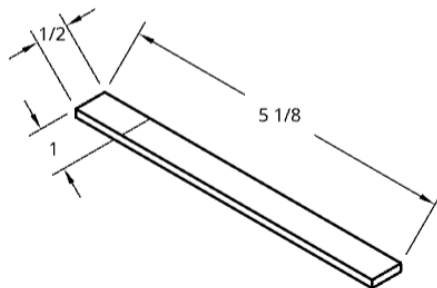

Figure 16. Manufacturing Steps 14-16
15. Use a shear to cut the metal into the given rectangle as depicted in figure 16. Alternatively, you could also laser cut this piece and skip step 1.